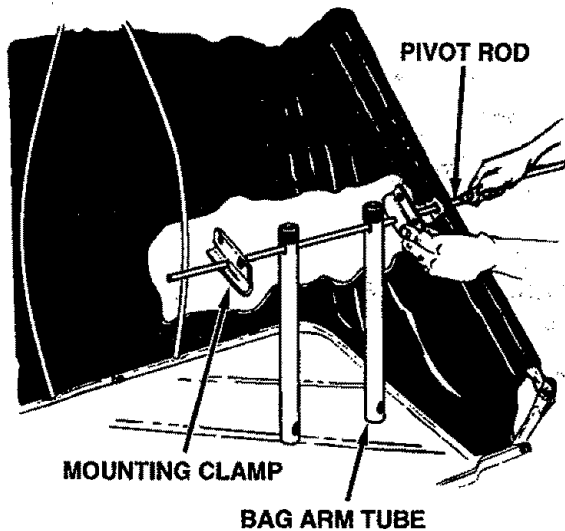

FIGURE 19
- Slide the hopper bag pivot rod through the side of an upper hopper tube where the hole was pierced. Assemble onto the rod a mounting clamp, two bag arm tubes and another mounting clamp as shown in figure 19. Push the rod on through the upper hopper tube on the opposite side of the bag.